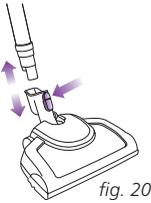

fig. 20
- 1 Disconnect the power nozzle from the telescopic tube. (Fig. 20)